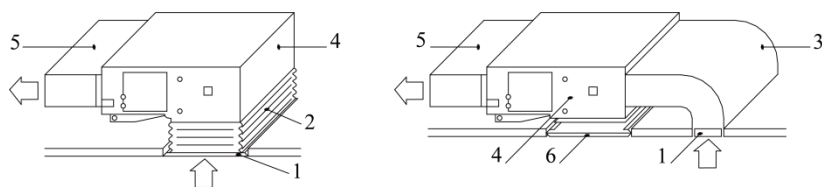

Fig.12
e. The installation method can be chose with considering the conditions of the building and maintenance etc., as shown in Fig.12.